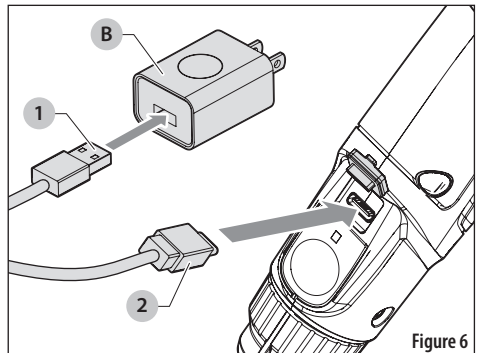

Figure 6
1. Plug the charger (B) into an appropriate outlet.
2. Ensure the USB-C cord (1) is fully inserted into the charger.
3. Insert the other end of the USB-C (2) cord into the charging port located above the power button on the handle of the power wand sprayer. See Figure 6.